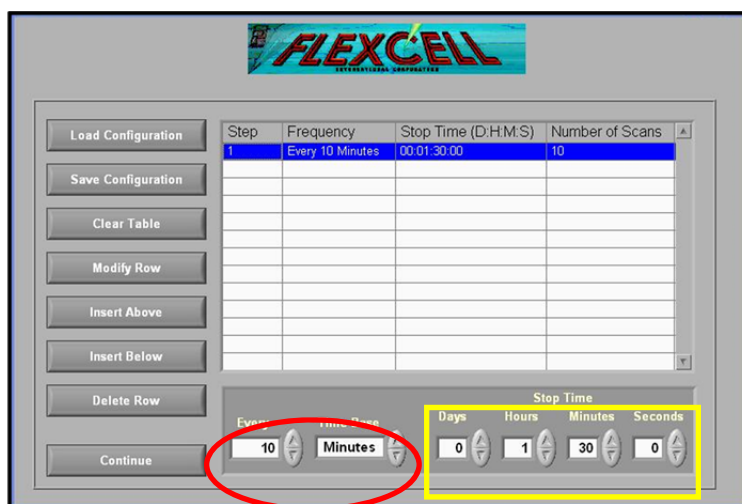

Figure 28. Creating a new regimen
- 1) Set the scanning frequency time under *EVERY*, and select units in *TIME BASE* (**Figure 28, red circle**). **Important: The maximum scanning frequency is one scan per every 2 minutes. The minimum frequency is one scan per every 200 hours.**
- 2) Set *STOP TIME* by setting days, hours, minutes and seconds (**Figure 28, yellow rectangle**).
For example, assume that another step needs to be added in addition to the Step #1 shown in **Figure 28** with a scanning frequency of every 2 minutes and a stop time of 30 minutes. Since Step #1 has 1 hr and 30 minutes, the stop time that needs to be entered for Step #2 is 2 hrs (1 hr 30min + 30 min). There will be 15 scans for Step #2.
- 3) Set the scanning frequency time under *EVERY*, and select units in *TIME BASE* (**Figure 28, red circle**).
- 4) Set *STOP TIME* by setting days, hours, minutes and seconds (**Figure 28, yellow rectangle**).